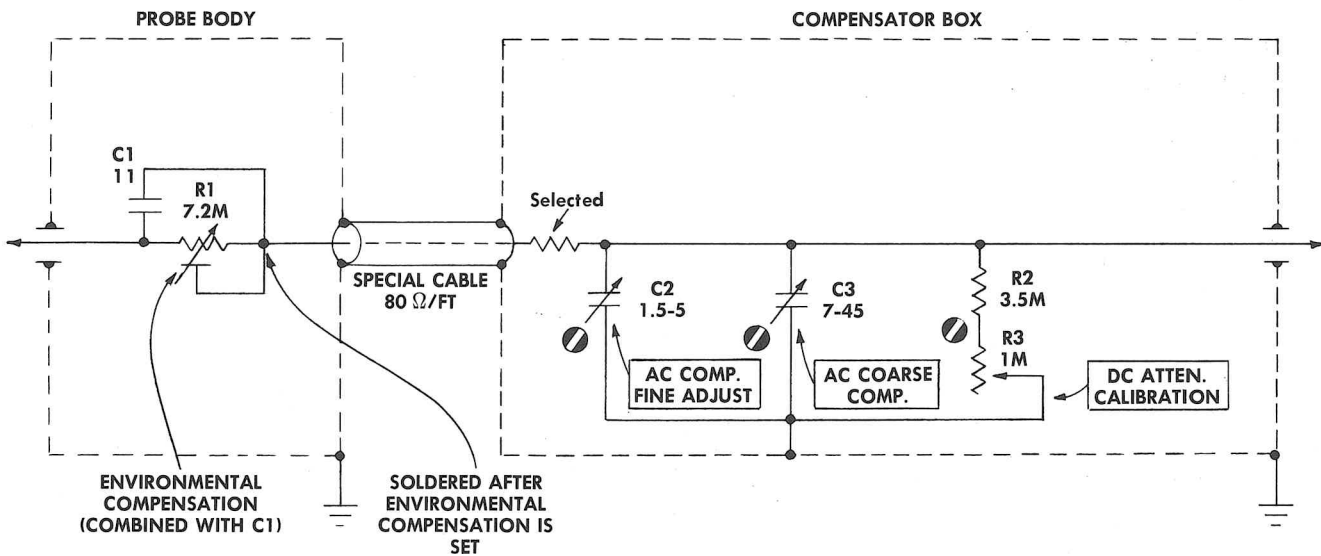

Fig. 10 Schematic diagram of the Type P6023 Probe.
- Remove the cover plate (see item 6, Fig. 10).